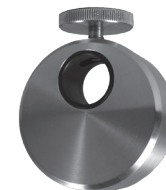

Figure 15
11. Locate the Tone Arm Counterweight. Loosen up the knurled knob to permit installing the Counterweight onto the rear of the Tone Arm. Refer to figure 15.